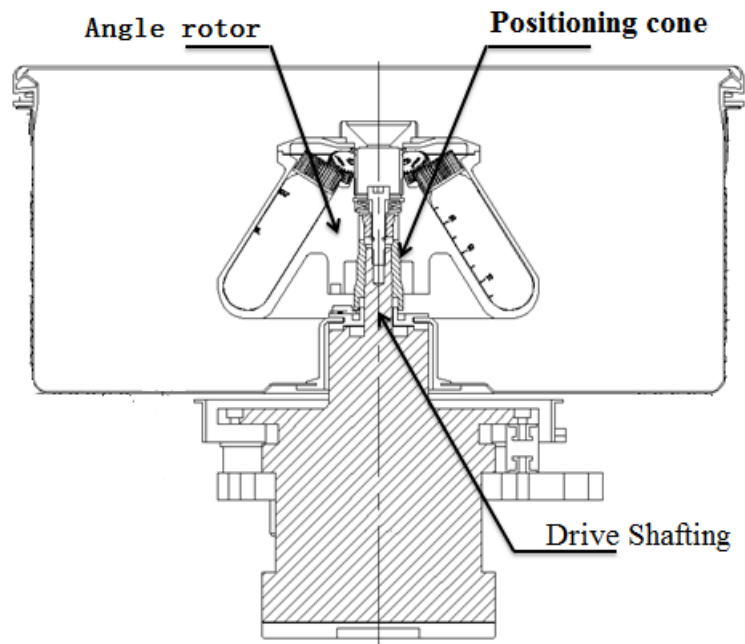

Figure 1.4-2 Angle Rotor installation
- (1). Take down the clamping screw components from the motor shaft.
- (2). Clean up the internal hole of the rotor yoke and the motor shaft.
- (3). Angle rotor: Hold the bottom of the rotor with both hands. Place the rotor vertically on the motor drive shaft. Hold the rotor with your left hand, and then insert the T-shaped Allen wrench into the clamping screw components on the rotor shaft with your right hand and screw tightly on clockwise until the cone surface of the rotor is in close contact with the cone surface of the drive shaft. See Figure 1.4-2